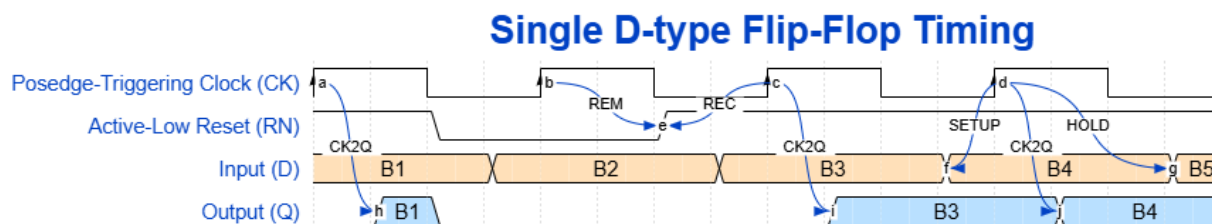

Figure 1: Positive Edge-Triggering D-type Flip-Flop Timing Diagram illustrating Setup, Hold, Recovery, and Removal constraints.
- **(IOPATH A Y (X) (Y))**: Shows the delay from an input pin A to an output pin Y. The two parenthesized values often reflect rise/fall.
- **(INTERCONNECT net1 net2 (X) (Y))**: Describes interconnect (net) delay from net1 to net2.
- **(TIMINGCHECK ...)** encloses setup, hold, recovery, and removal timing constraints to ensure correct sequential circuit operation. Figure 1 illustrates these constraints for a single D-type Flip-Flop.
- * **Recovery Time**: The minimum time after RN is deasserted (goes high) before the next rising clock edge to prevent metastability. In Figure 1, recovery time is represented between points **e** and the next rising edge of CK or point **c**. Example:
- * **Removal Time**: The minimum time that RN must remain active (low) after the clock edge before being released, ensuring proper reset operation. In Figure 1, removal time is between points **b** and **e**, ensuring that reset is held long enough to clear the state.
- *Setup/Hold*: These checks ensure that the data input (D) is stable around the active clock edge (CK):
- * **Setup Time**: The minimum time before the active clock edge that D must be stable, ensuring correct data sampling. This is shown at point **f** in Figure 1, where D must be stable before the rising edge of CK. Example:
- * **Hold Time:** The minimum time after the active clock edge that D must remain stable to avoid data corruption. In Figure 1, this is indicated at point **g**, where D must remain stable after the rising edge of CK. At a post-synthesis stage, the physical path delays are still unknown and hold violations cannot be properly evaluated. Thus, the hold delays are set to zero.